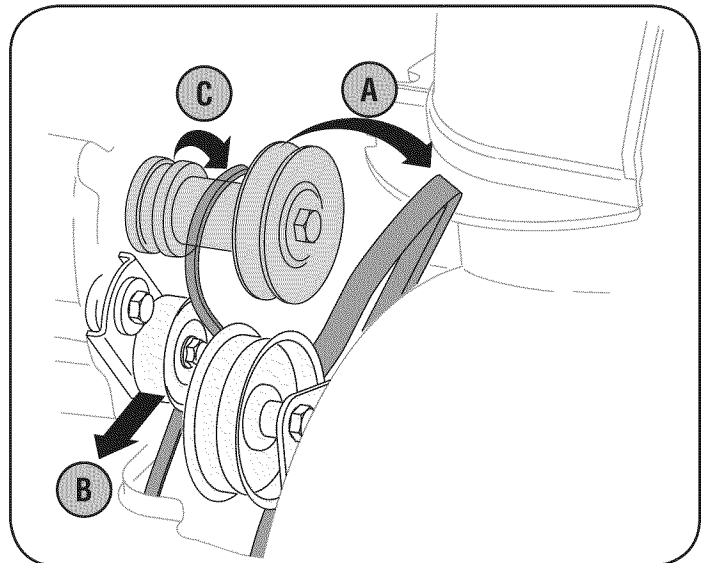

Figure 32
3. Remove the belt from engine pulley as follows. Refer to Figure 32.